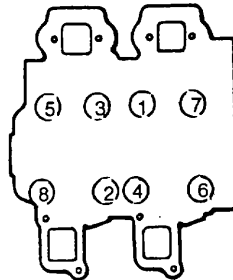

FIGURE 3-31. Cylinder Head Bolt Tightening Sequence
- k. Tighten all eight bolts in three stages and in sequence shown in FIGURE 3-31.
- (1) First tighten to 6.2 ft-lbs (8.4 Nm).